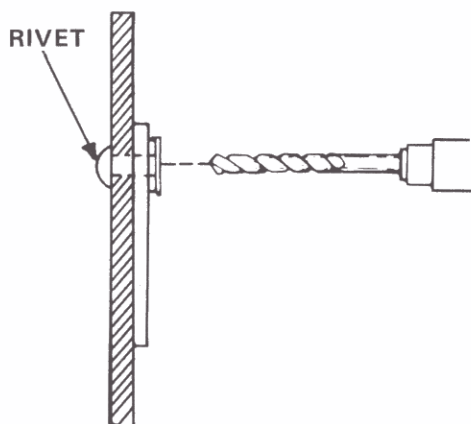

Fig. 4
- Bore out the rivets using a drill bit slightly larger in diameter than the rivet, see Figure. 4.